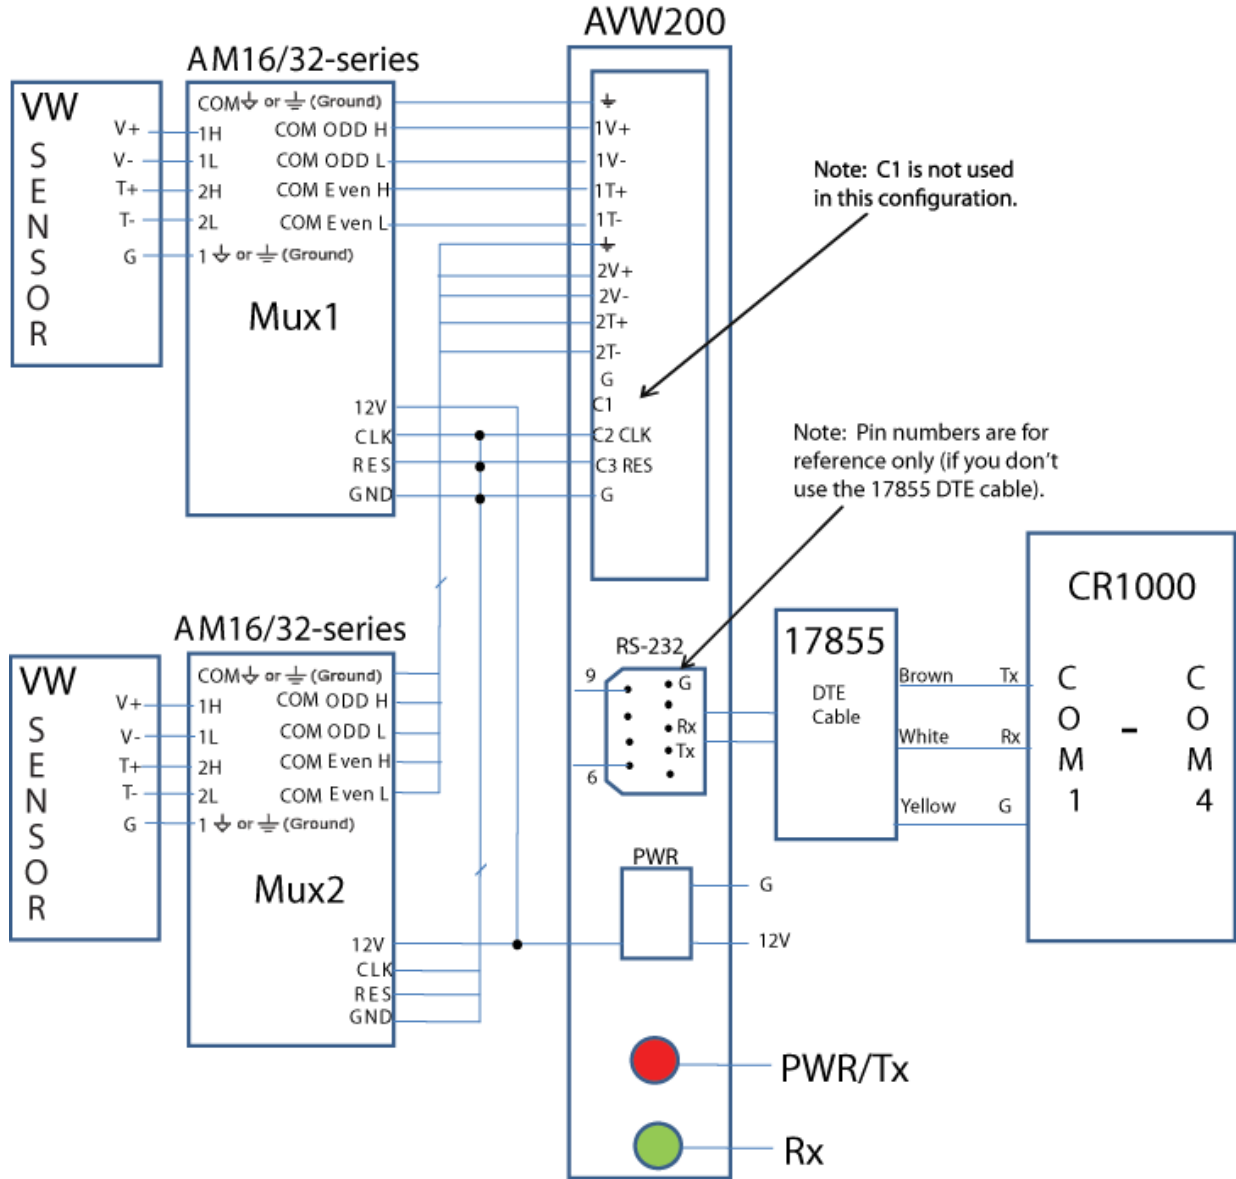

FIGURE 4-4. Example AM16/32-series to AVW200 Hookup (multiplexers controlled by AVW200)
3. Attach the multiplexers to the AVW206 as shown in FIGURE 4-4.
For most applications, it is desirable to have the AVW200 control the multiplexer. A CABLE4CBL or MUXSIGNAL cable connects to the multiplexer’s COM terminals, and another CABLE4CBL cable or the MUXPOWER cable connects to the multiplexer’s CLK and RESET terminals (see FIGURE 4-4).